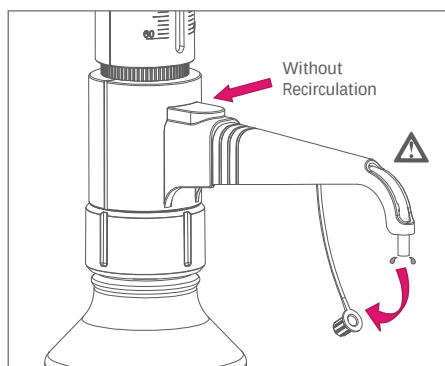

Fig.7
2. Hold the spout and carefully open the nozzle cap. (Fig.7)